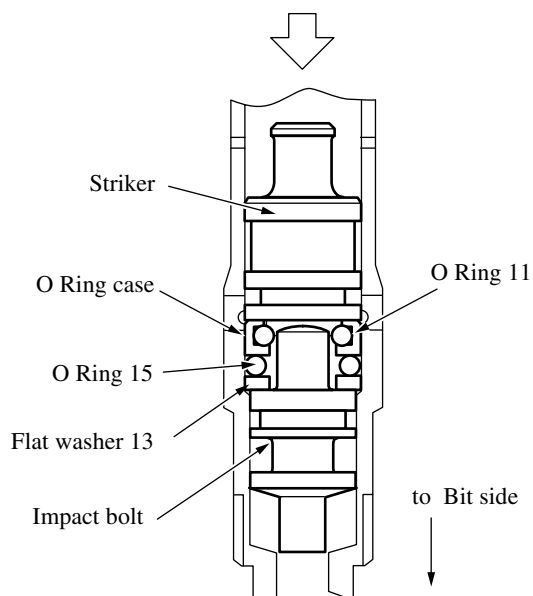

Fig. 17
2) After making Flat washer13, O Ring 15 and O Ring case pass through Impact bolt, press them into Tool holder. (See Fig.17)